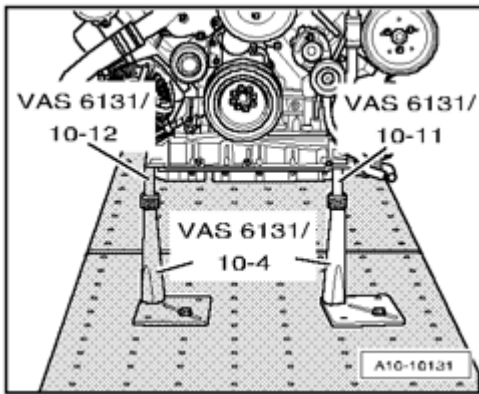

Fig. 490: Tightening Cylinder Head Cover In Sequence
- Observe sequence for tightening --> **Fig. 490**